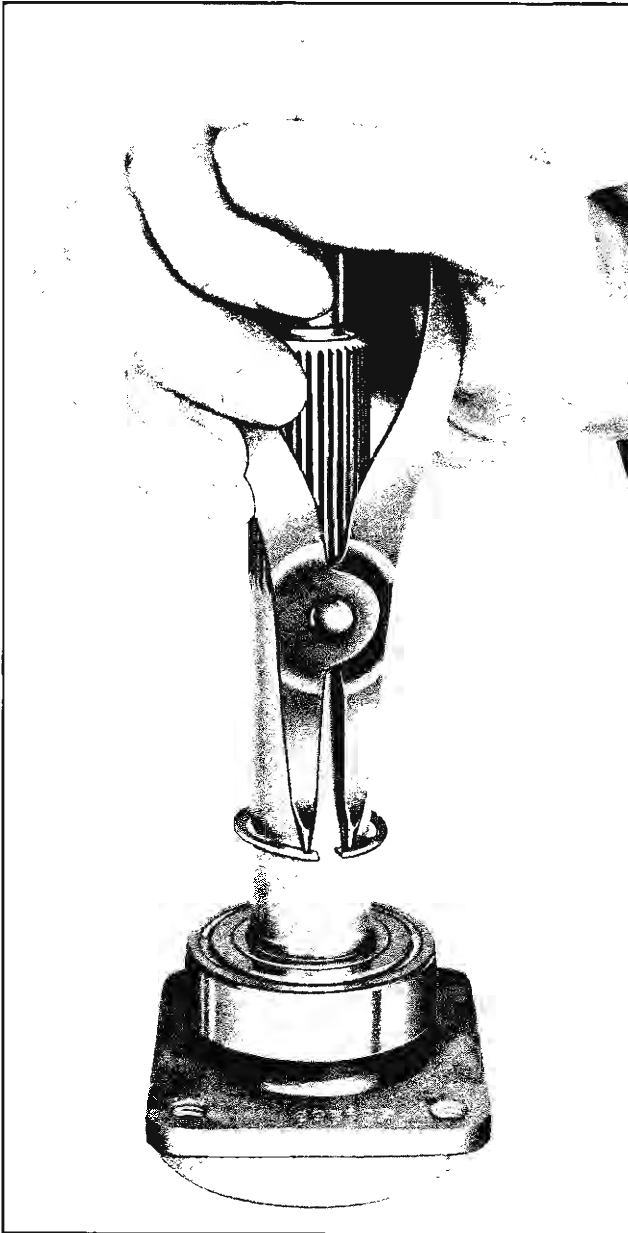

Fig. 6D-13 Removing Drive Shaft Bearing Retainer
3. Install new bearing with tool J-5736 (Fig. 6D-17).